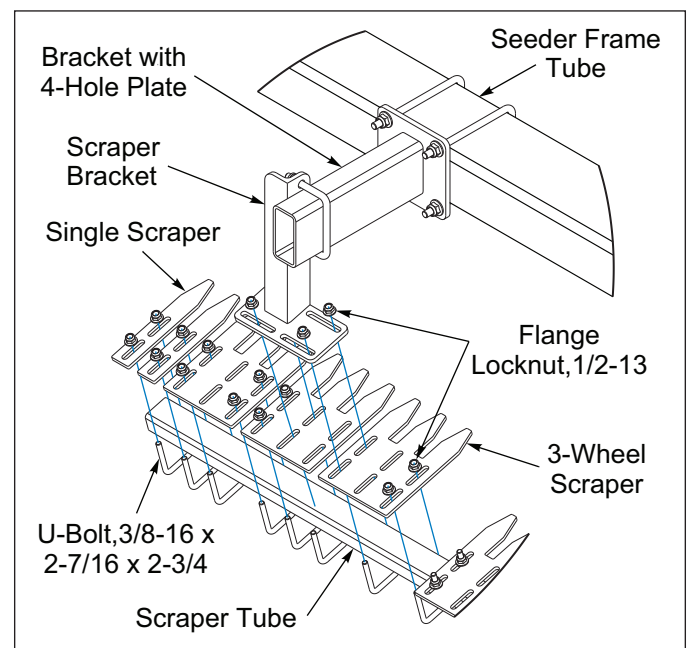
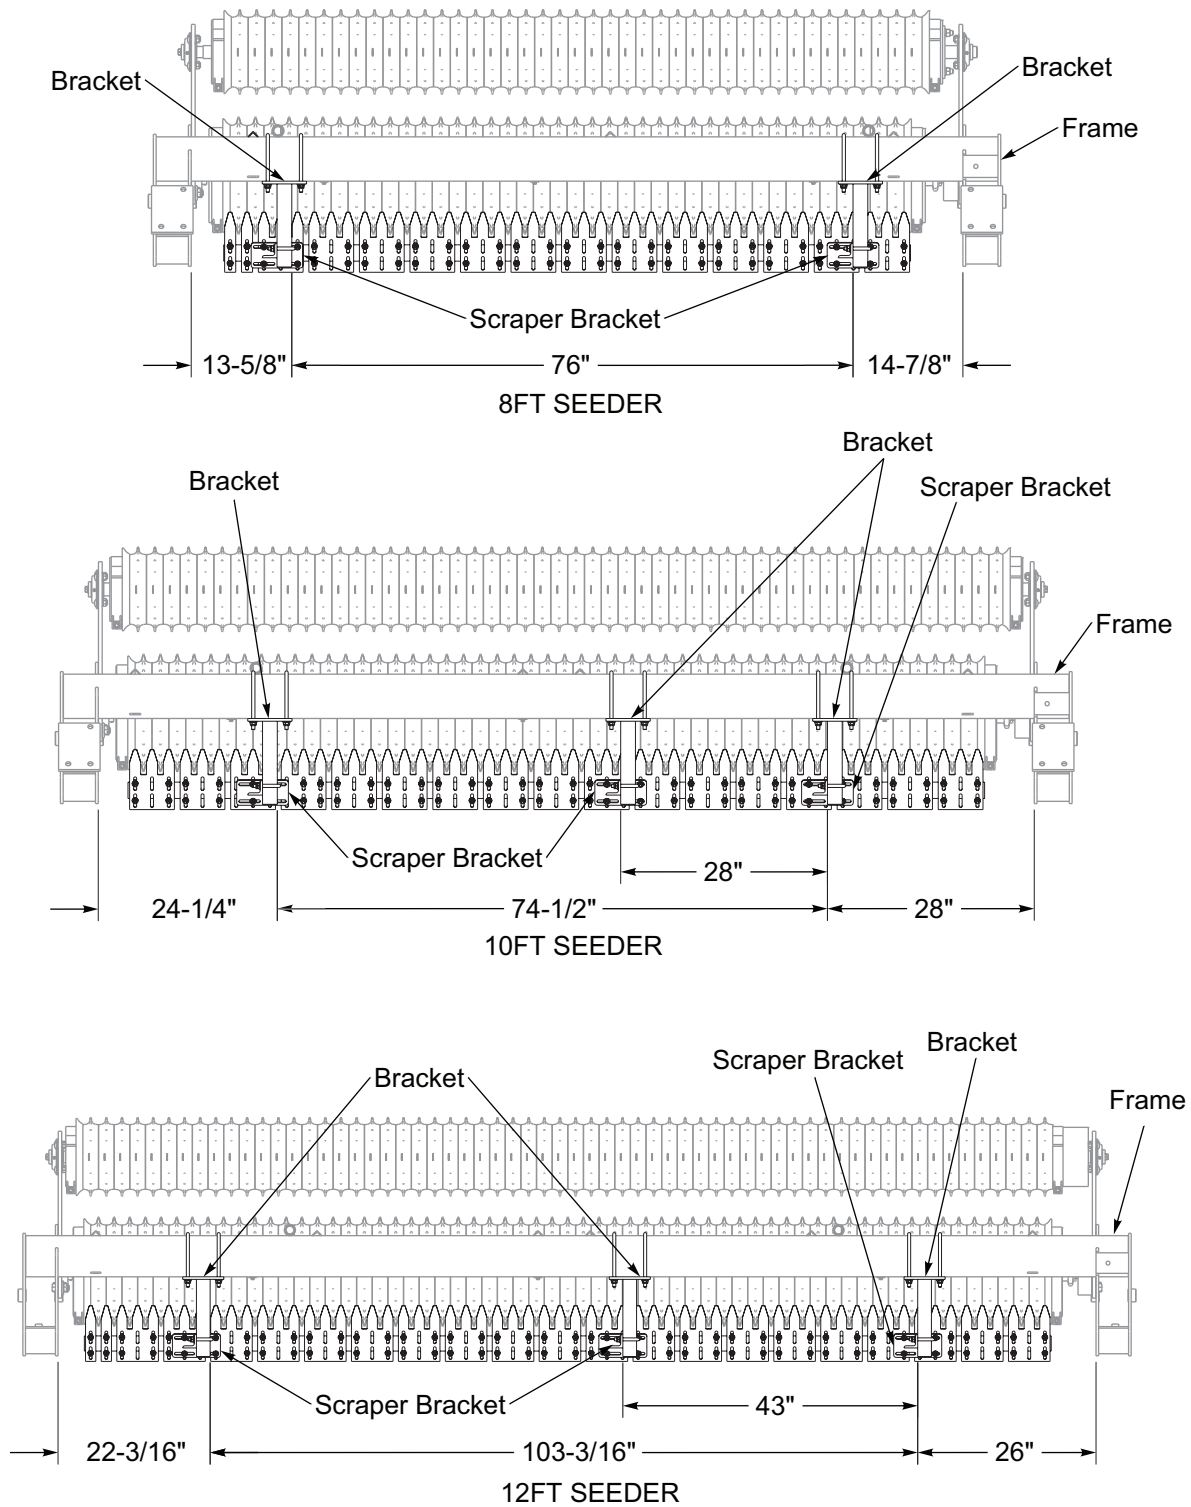

Figure 2-49: Scraper Assembly
Figure 2-50: Scraper Mounting Dimensions - Pull-Type
2. Position and assemble the Brackets with the 4-Hole Plate approximately as dimensioned on the front of the Seeder Frame Tube. See Figures 2-50 and 2-51. Secure with 1/2-13 x 4-1/2 x 7-1/2 U-Bolts and Flange Locknuts.
Scraper Brackets should be positioned per application. Use Figures 2-50 and 2-51 only as a reference.
6. Align the Scraper Brackets Slotted Plate to the appropriate Scrapers and attach with the Scraper 3/8-16 Hardware. **See Figure 2-49.** It may be necessary to use the center pair and an outer pair of slots in the Scraper to attach the Scraper Bracket to the Scraper and Tube Assembly. **See Figures 2-50 and 2-51.**